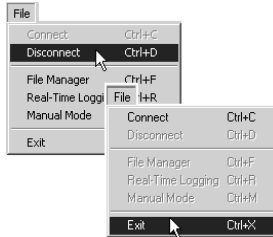

Figure 4-7. Click Disconnect then Exit
10. Continue with other operations. Or click **File->Disconnect**, then **File->Exit** to quit PC-CDU (Figure 4-7).